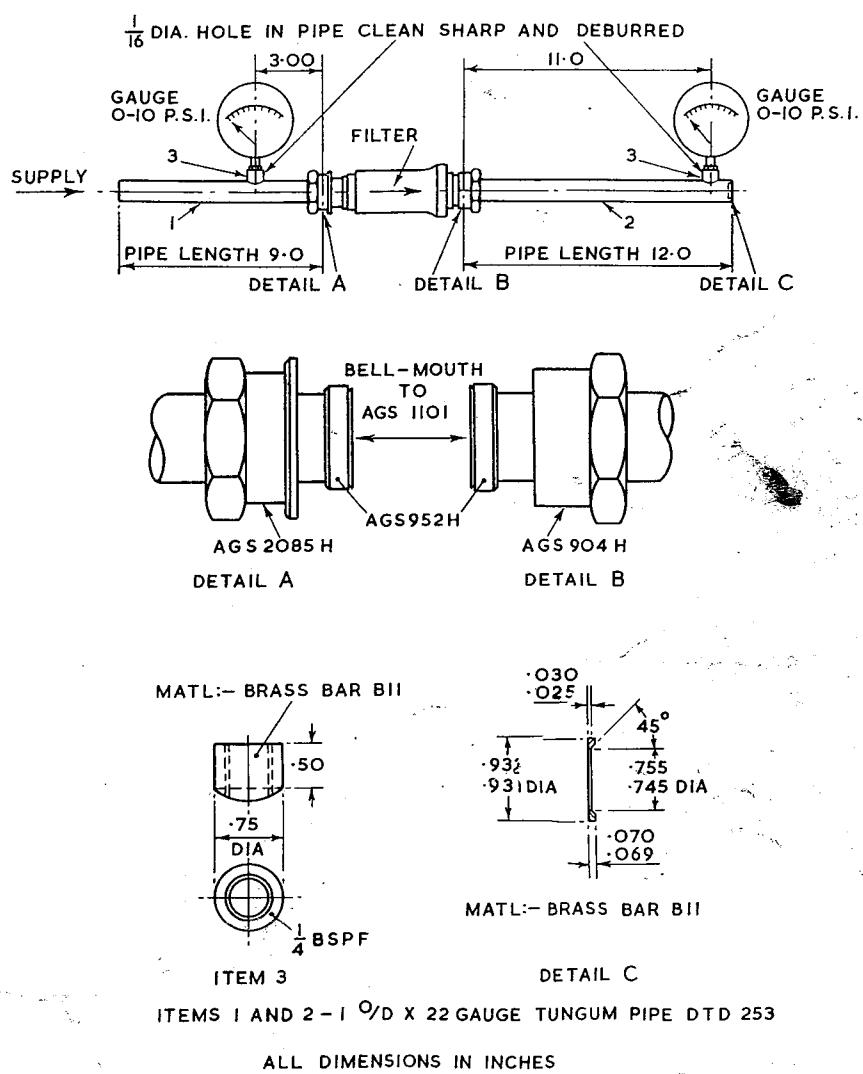

Fig. 2 Flow test details
8. Fig. 2 gives guidance for local manufacture of adapters for the flow test. Detail C and Items 3
9. (1) Connect the filter to an air supply as shown in fig. 2; the supply should incorporate a regulating valve and be capable of delivering 90 ft³/min.